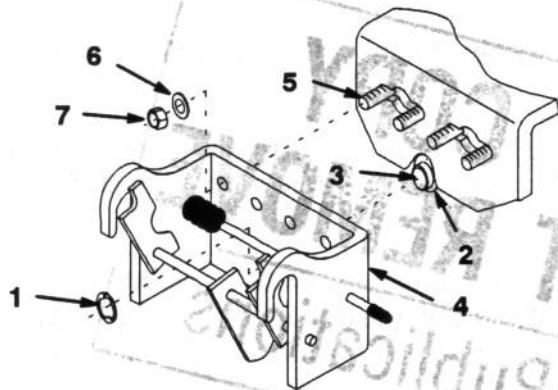

Figure 1
1. Remove E-ring and all except one thick washer from tractor front axle pivot pin. Discard unused washers. (Fig. 1).
2. Install 3/8 x 1 carriage bolts into keyhole slots in axle bracket and place front hitch onto the tractor securing with lock nuts and previously removed E-ring (Fig. 1).